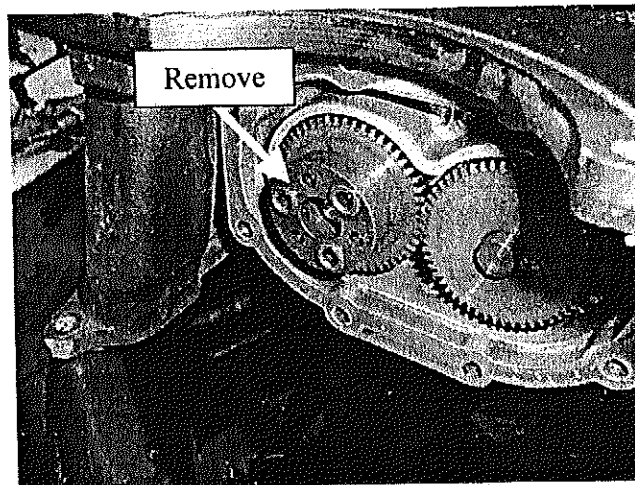

Figure 20
7. Remove the Phenolic block by pulling it straight off of the attachment pins (Figure 20).